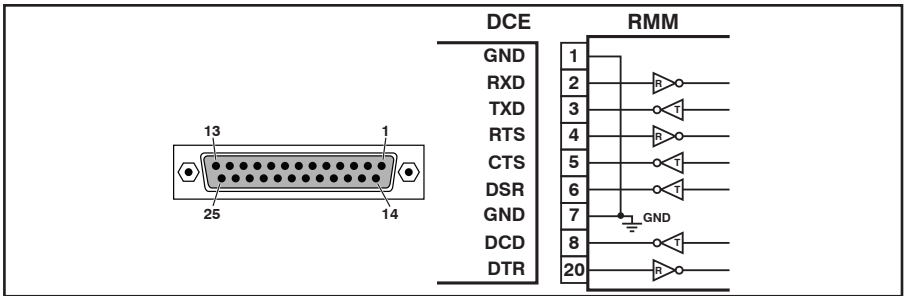

Figure 1. DB25F Modem Port (DCE)
- **DB25F Modem Port:** Use a standard Modem Cable. For a description of the port pinout, see Figure 1.
- **DB25F Modem Port:** Use a standard DB25 Modem Cable. For a description of the port pinout, see Figure 1.